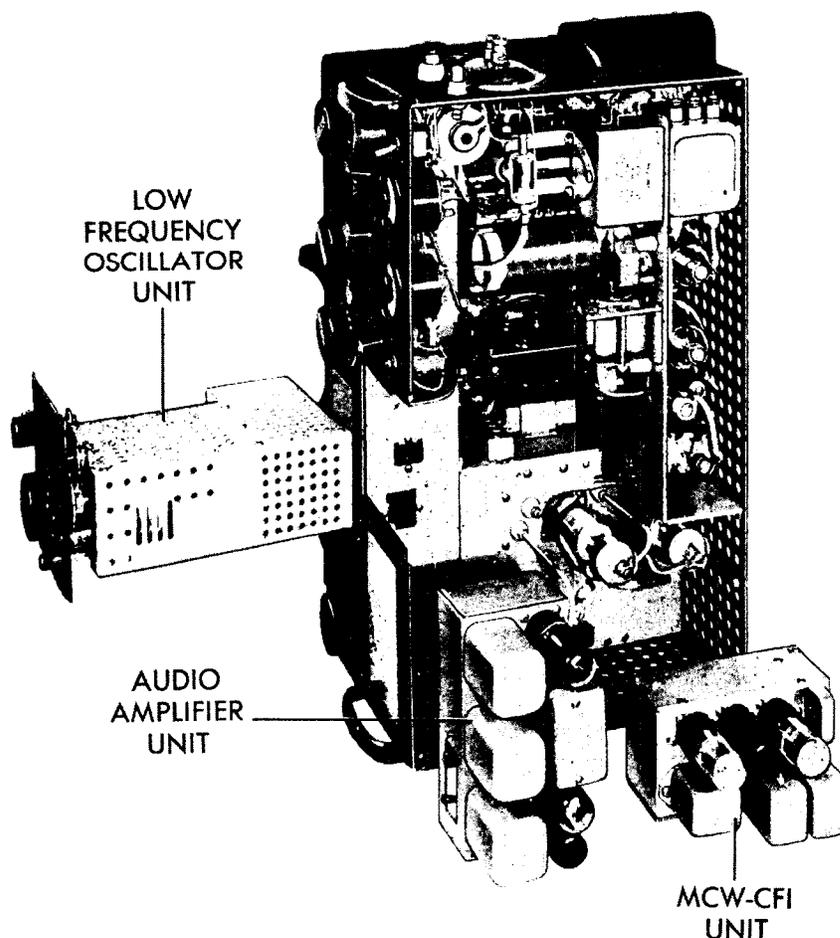

Figure 5-6. Radio Transmitter T-47A/ART-13 and Removable Units
(5) DISASSEMBLY OF TRANSMITTER UNIT.—The transmitter unit contains three major assemblies that are equipped with multi-terminal plugs to permit removal without unsoldering any connections. These readily removable assemblies are the Low Frequency Oscillator, the Audio Amplifier, and the MCW-CFI Unit. Figure 5-6 shows the units removed from the equipment. Wrap-around sections and panels of the transmitter case may also be removed to facilitate access to internal parts. The location of the part to be checked or removed will determine the section of case that must be removed.